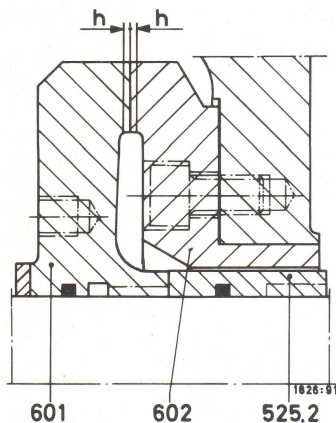

Figure 32 – Remachining the balance device
If the balance disc (601) touches the balance counter disc (602) remachine the faces on a lathe with arbours, this ensures the contact faces are then sufficiently true in relation to the bores. (Max. remachining 2 h = 2 mm, see fig. 32). Individual grooves can be allowed to remain.